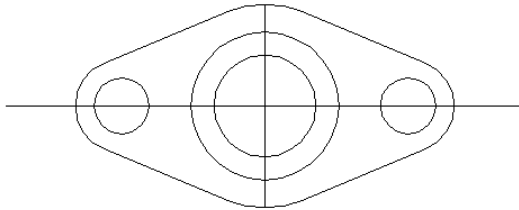

Figure 10-2: The completed mounting plate.
8. At the Specify first point of mirror line: prompt, pick intersection ❷. At the Specify second point of mirror line: prompt, pick intersection ❸. Press Enter again at the Erase source objects? [Yes/No] <N>: prompt.
9. The command completes the mounting plate. Save your drawing. It should look like Figure 10-2.